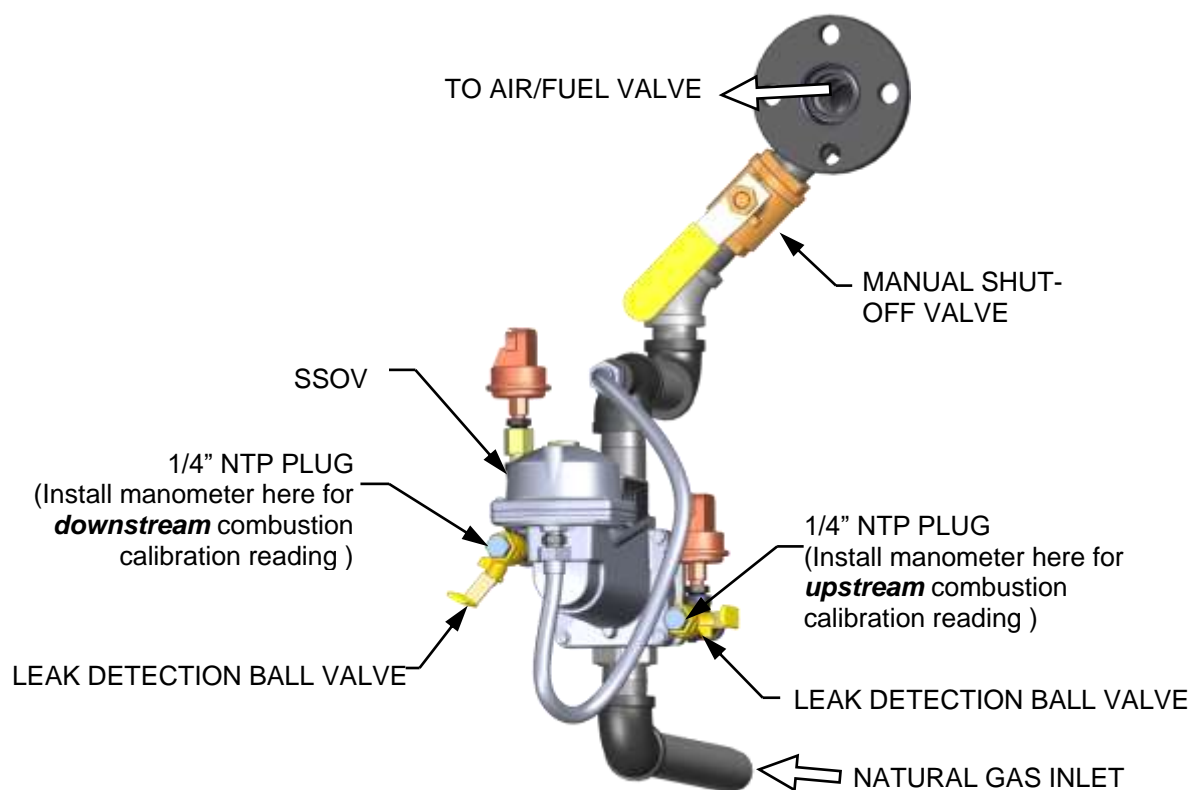

Figure 4-1a: 1/4 Inch Gas Plug Location – BMK750 & 1000 (P/N 22322 shown)
Figures 4-1a through 4-1e show where the gas supply manometer is installed on both the upstream and downstream locations.
3. Remove the 1/4" NPT plug from the leak detection ball valve on the upstream or downstream side of the SSOV, as needed during testing, as shown in Figure 4-1a – 4-1d, below.